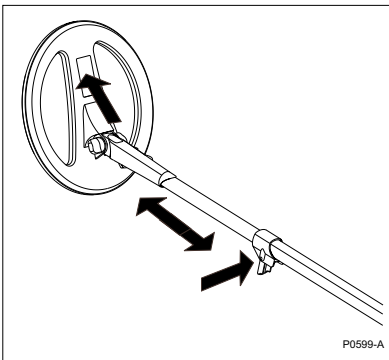

Figure 2.9 Adjusting the shaft and angle of the search coil
- STEP 6** (Figure 2.9) Adjust shaft to the desired length and then lock with shaft camlock lever.
- STEP 7** (Figure 2.9) Tilt the search coil to the most comfortable angle, keeping in mind it will need to be parallel to the ground during detecting.